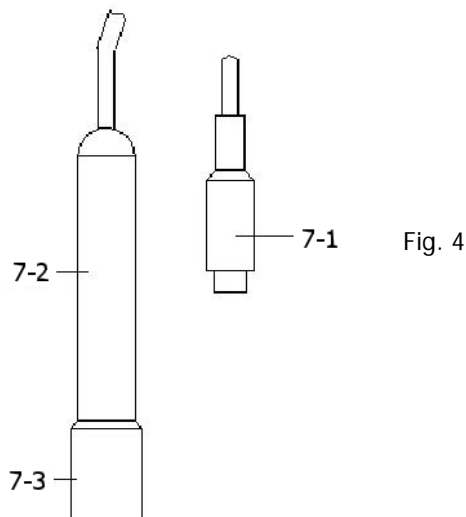

Fig. 4
- 1) Prepare the Conductivity Probe ( optional, CDPB-03 ), install the " Probe Plug " ( 7-1, Fig. 4 ) into the " CD Socket " ( 3-15, Fig. 1 ).
- 3) Hold the " Probe Handle " ( 7-2, Fig. 4 ) by hand and let the " Sensing head " ( 7-3, Fig. 4 ) immersed wholly into the measured solution. Shake the probe to let the probe's internal air bubble drift out from the sensing head.